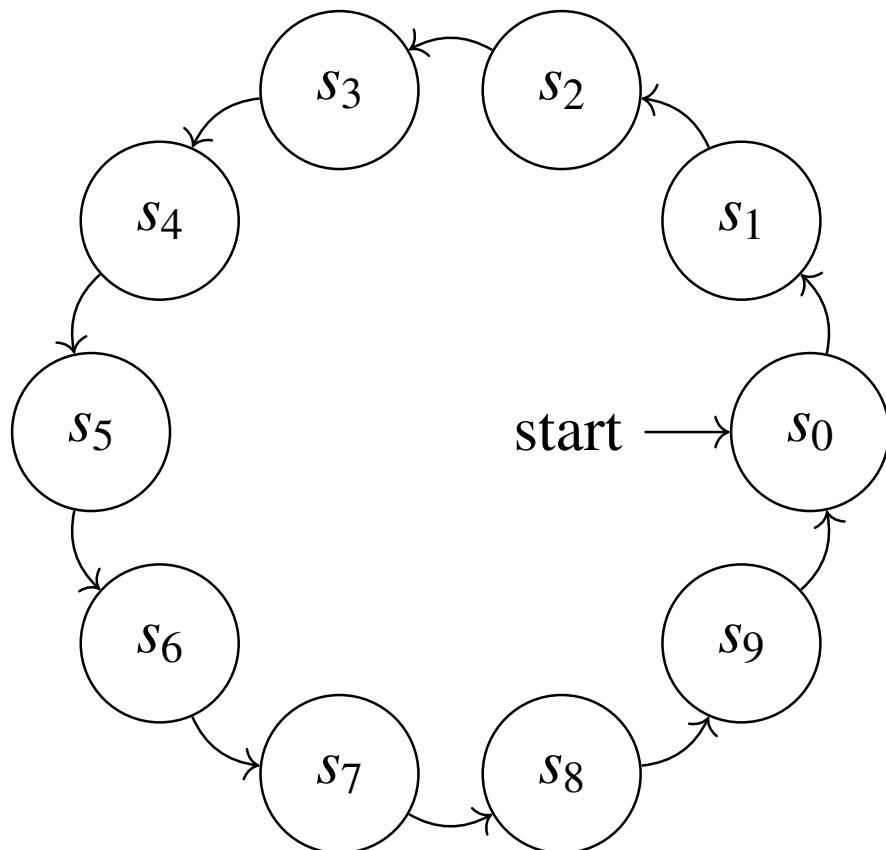

Fig. 6.1: FSM for the decade counter
1. Fig. 6.1 shows a *finite state machine* (FSM) diagram for the decade counter in Fig 5.2. s_0 is the state when the input to the incrementing decoder is 0. The *state transition table* for the FSM is Table 3.4, where the present state is denoted by the variables W, X, Y, Z and the next state by A, B, C, D .
For the FSM in Fig 6.1, the number of states is 9, hence the number of flip flops required = 4